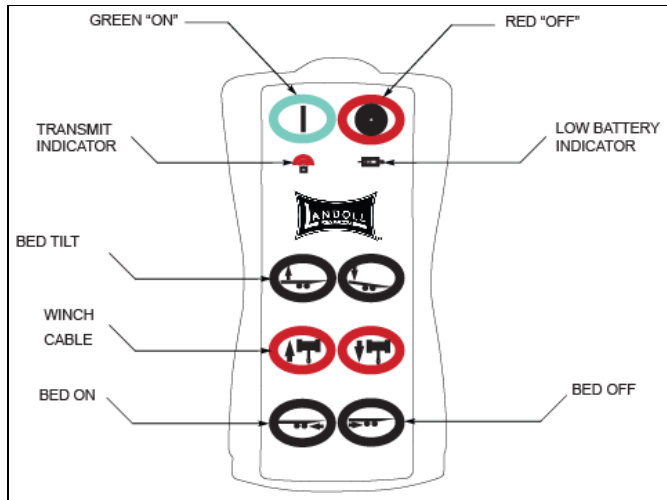

Figure 3-4: Remote Control Transmitter
1. A wireless six function radio remote control is available (**See Figure 3-4.**)